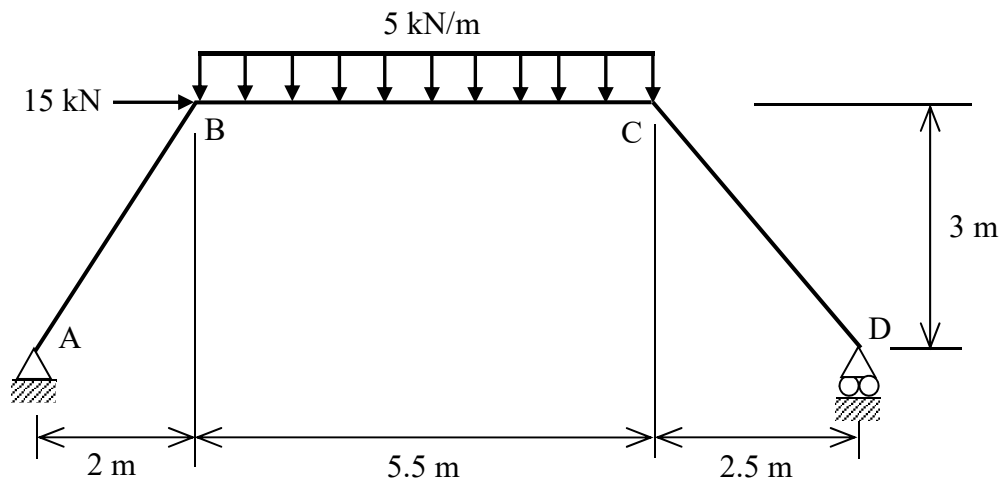

Figure 7/Rajah 7
6. Use the virtual work method to determine the horizontal deflection and rotation angle at joint C of the frame shown in **Figure 7**. Take $E = 200 \text{ GPa}$ and $I = 600 \times 10^6 \text{ mm}^4$.